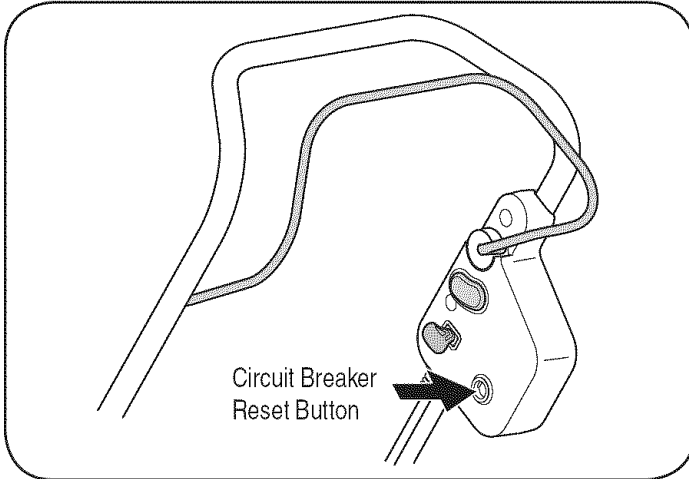

Figure 13
2. Press the circuit breaker reset button inward to reset. See Figure 13.